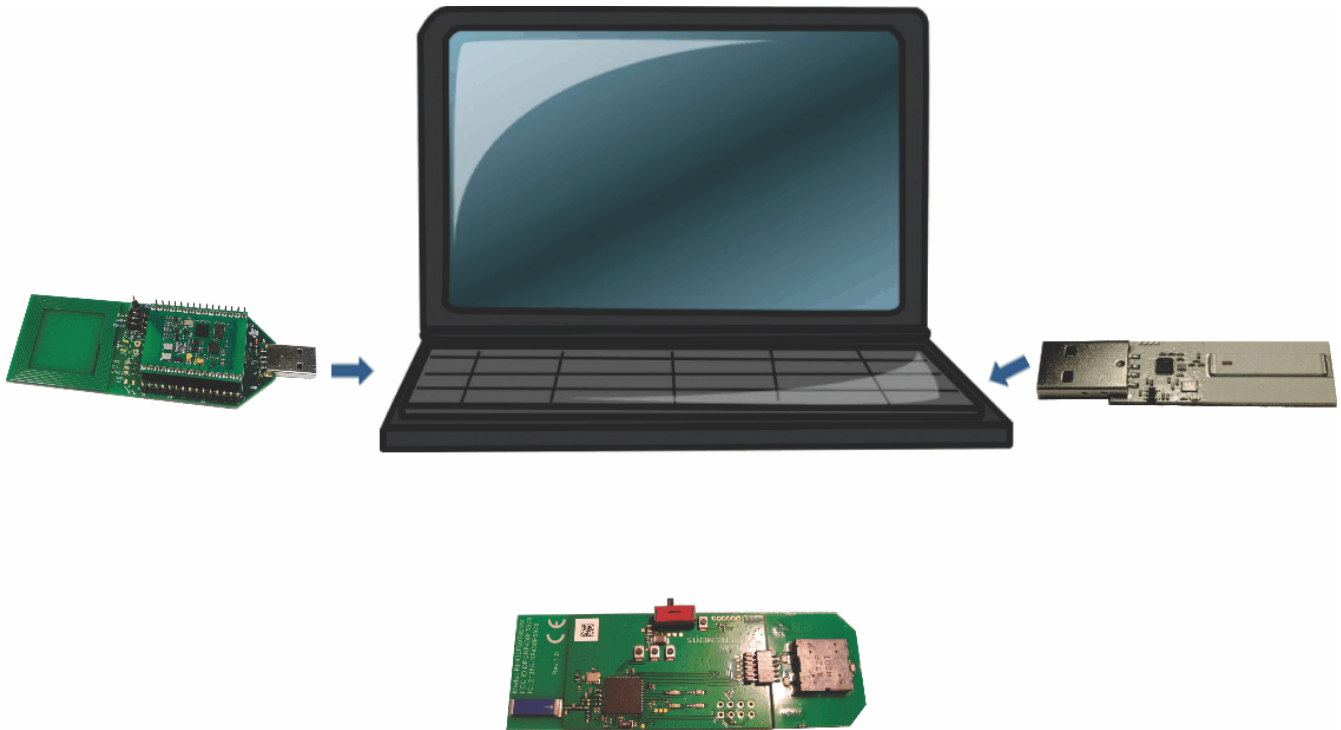

Figure 6. RF430F5978EVM USB Connection
2. Connect MRD2 reader and the AP434R01 access point to USB interfaces on the PC (see Figure 6).